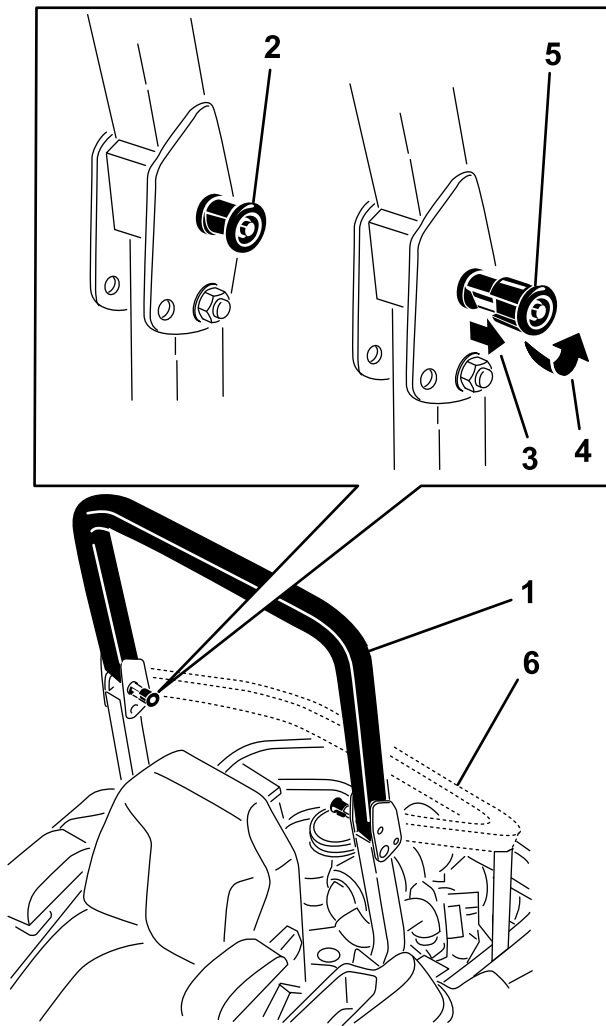

Figure 8
2. Pull both knobs out and rotate them 90 degrees so they are not engaged (Figure 8).
- Lower the roll bar to the down position (Figure 8).
- Raise the roll bar to the operating position and rotate the knobs until they move partially into the grooves (Figure 8).
- Raise the roll bar to the full upright position while pushing on the upper roll bar so that the pins snap into position when the holes align with the pins (Figure 8).